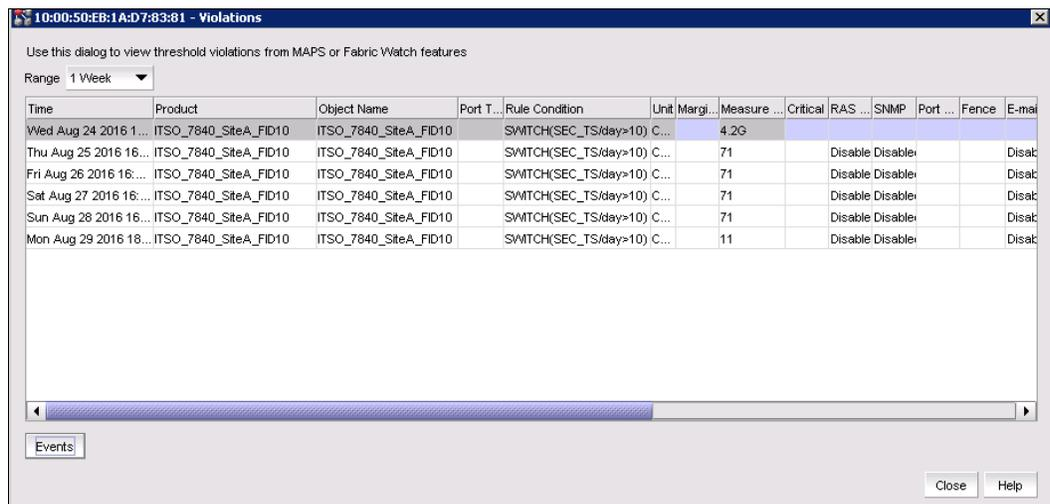

Figure 7-10 MAPS violations
1. Right-click a device in the Product List or Connectivity Map and select **Fabric Vision** → **MAPS** → **Violations**. The MAPS Violations window is displayed (Figure 7-10).